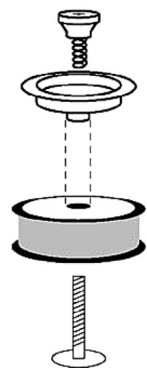

Fig. 5
- a. Four Inch Wire Spool - Install the drive brake hardware on the top of the spool of wire as shown in Fig. 5.